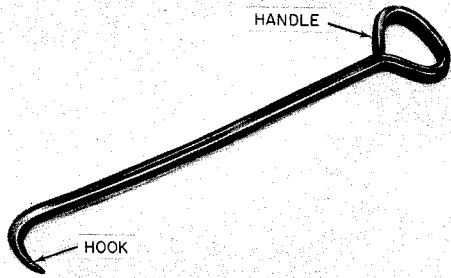

Fig. 5—Manhole Cover Hook
4.01 *B Manhole Cover Hook AT-8172*: The B manhole cover hook (Fig. 5) may be used to remove all manhole covers.